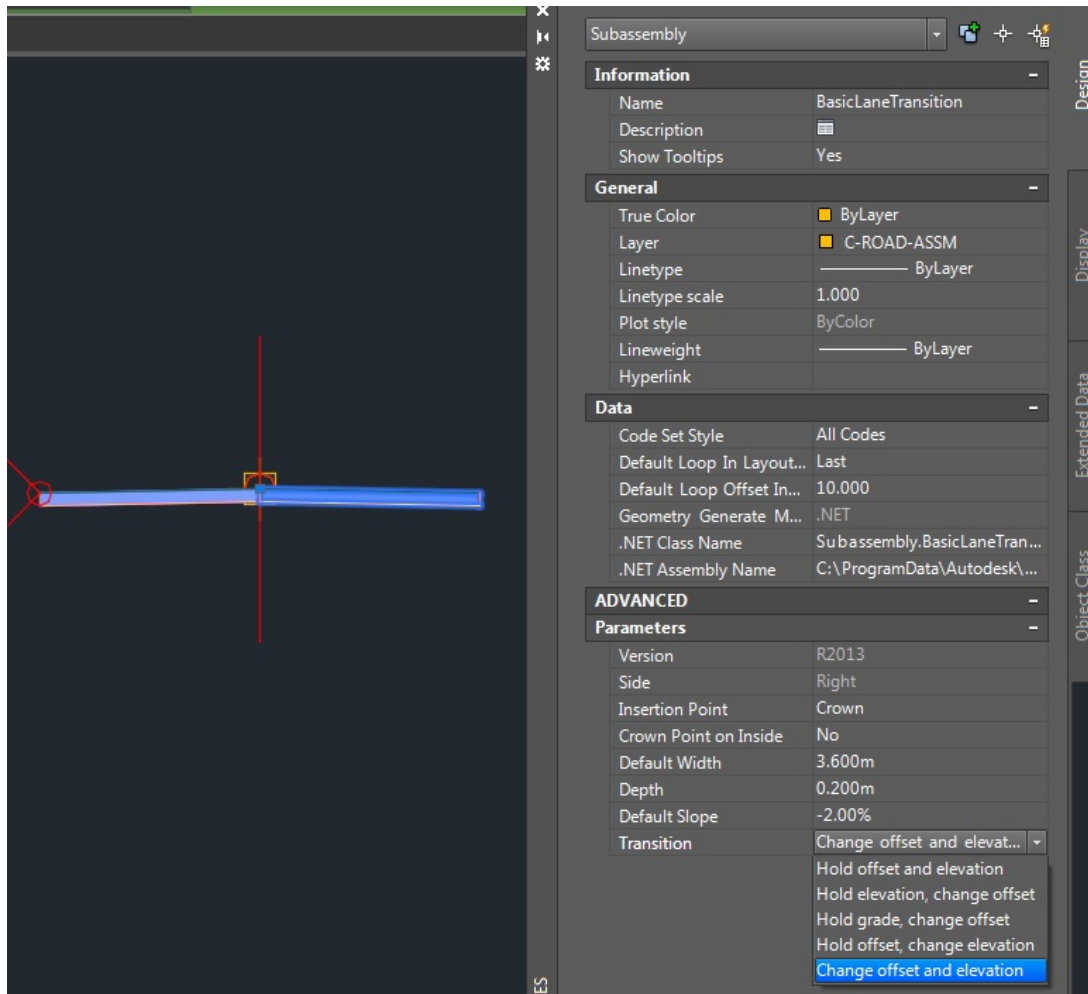

Fig. 6. Changing OFFSET and ELEVATION in AL1-AS3's BasicTransitionLine.
3. The redefinition in CORR1 is not finished yet: go to the properties of the BasicLineTransition in ASSEMBLY AL1-AS3. Modify the one related to the type of transition, checking that the option is the one marked in fig. 6.